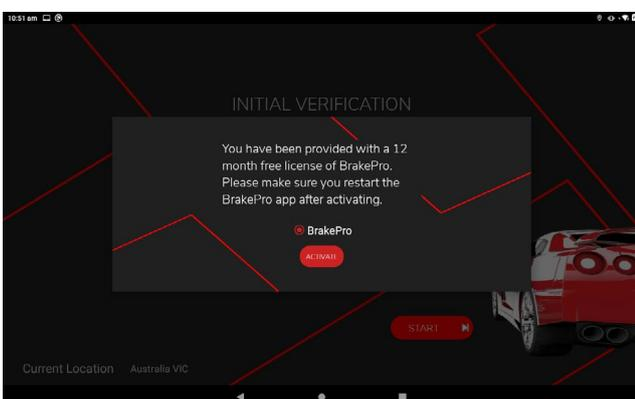
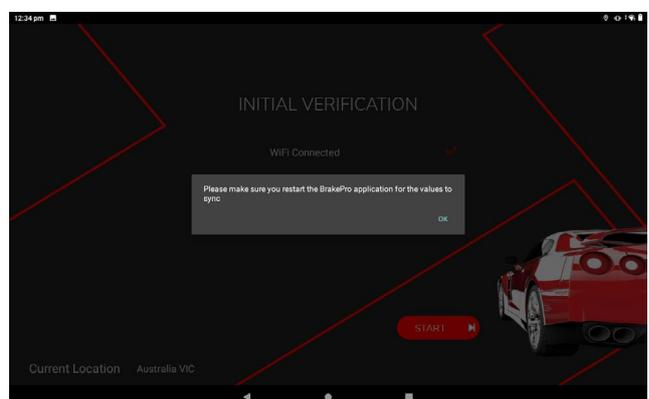

Figure 10
Figure 11
Step 7 : Press "Activate" to apply the provided 12-month license of Brake Pro (Figure 10). Ensure you restart the Brake Pro app after activating the license (Figure 11).